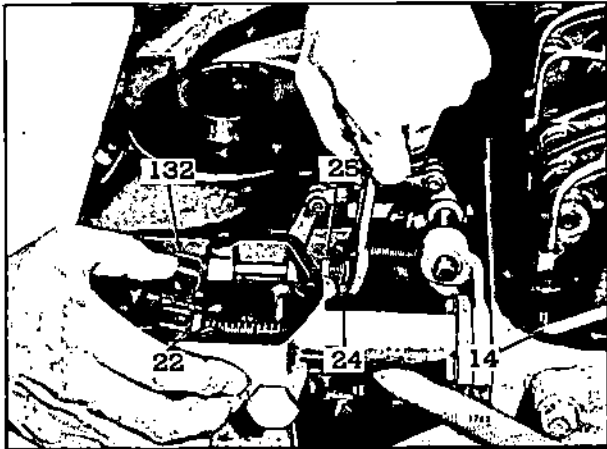

Fig. 16 - Load Limit Adjustment
1. Place the fuel rod (14) and terminal lever (132) in the FULL FUEL position as shown in Fig. 16.
2. Loosen the lock nut (25) and turn the adjusting screw (24) until a .020" space exists between the fuel rod collar (22) and the terminal lever (132). Hold the adjusting screw and tighten the lock nut.